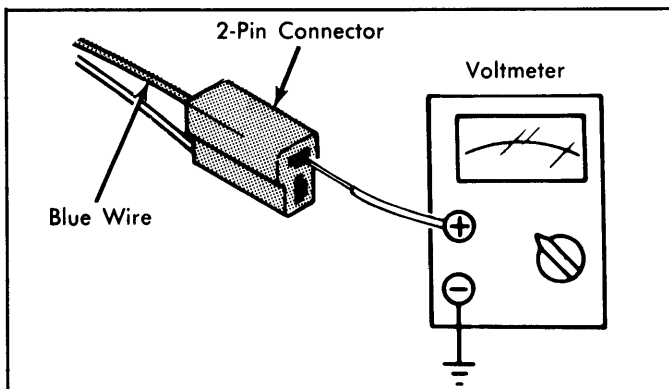

Fig. 4: 1979 Datsun Primary Circuit Voltage Check (Others Similar)
1) Ensure ignition switch is off. Disconnect ignition unit 2-pin connector from unit. Turn ignition on. Connect negative lead of voltmeter to ground and positive lead to Blue wire terminal of connector. See Fig. 4. Measure voltage and turn ignition off.